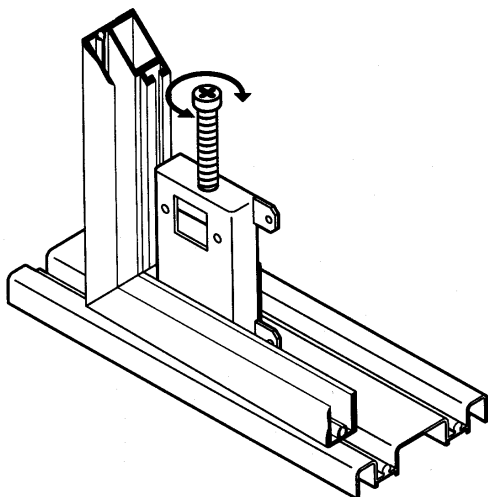

Figure 4
- A. Slide the front Panel (#1) to the side closest to the room's entrance door (This is how the wardrobe doors will be in position to look their best). Look at the space between the door edge and the wall. You want the door edge and the wall to be flush. If you see space at the top or bottom edge of the Panel (#1), turn the adjusting screw on top of the Steel Wheel Assembly (#14) on the lower back of the Panel (#1) nearest the wall. Turn the screw left or right until the Panel (#1) aligns flush with the wall (See Figure 4).